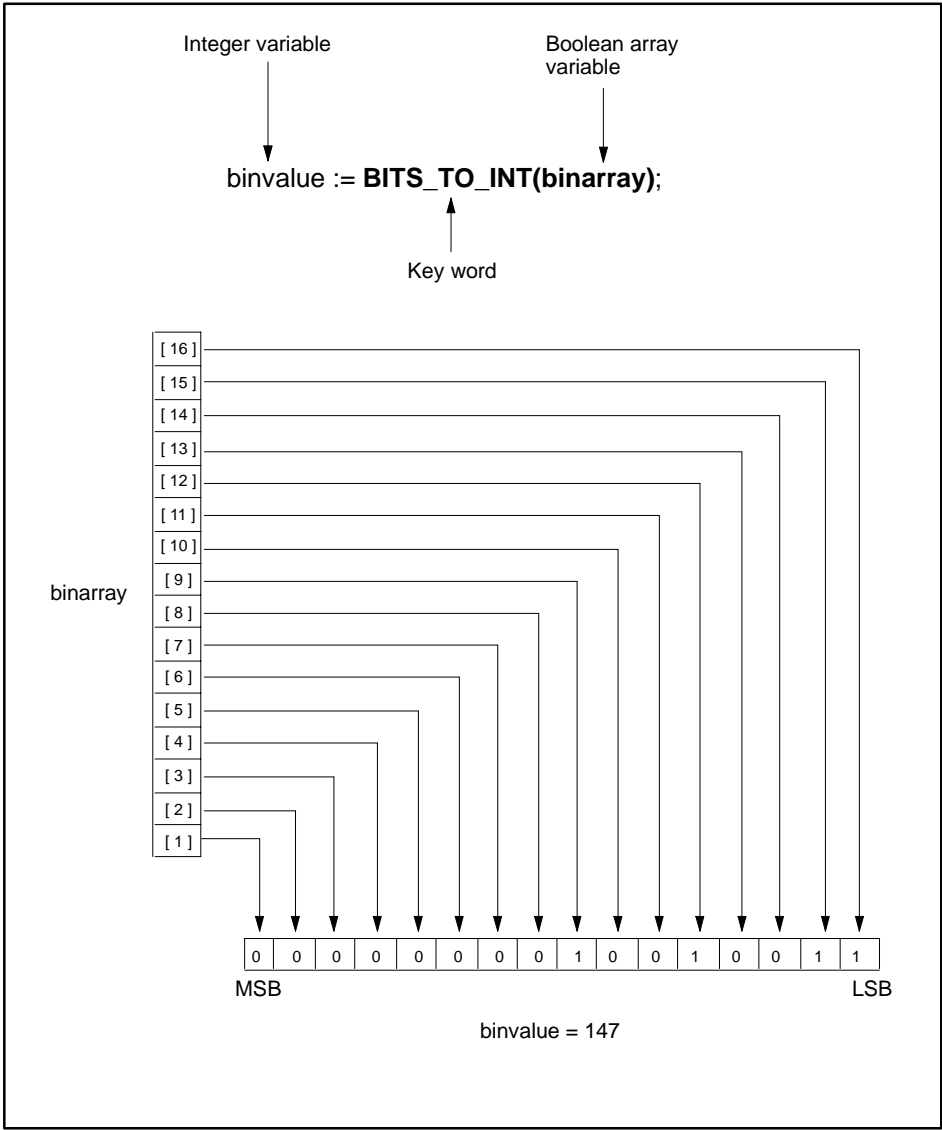

Figure 11-11 Example of BITS_TO_INT Operation
- The returned integer value is the decimal equivalent of the binary value constructed from the bit values of the boolean array. For example, in Figure 11-11, the value of the variable `binvalue` is 147.
The BITS_TO_INT procedure moves the first element of the array into the most significant bit of the integer (see Figure 11-11). The PACK_BITS procedure moves the first element of an array into the least significant bit of the integer.